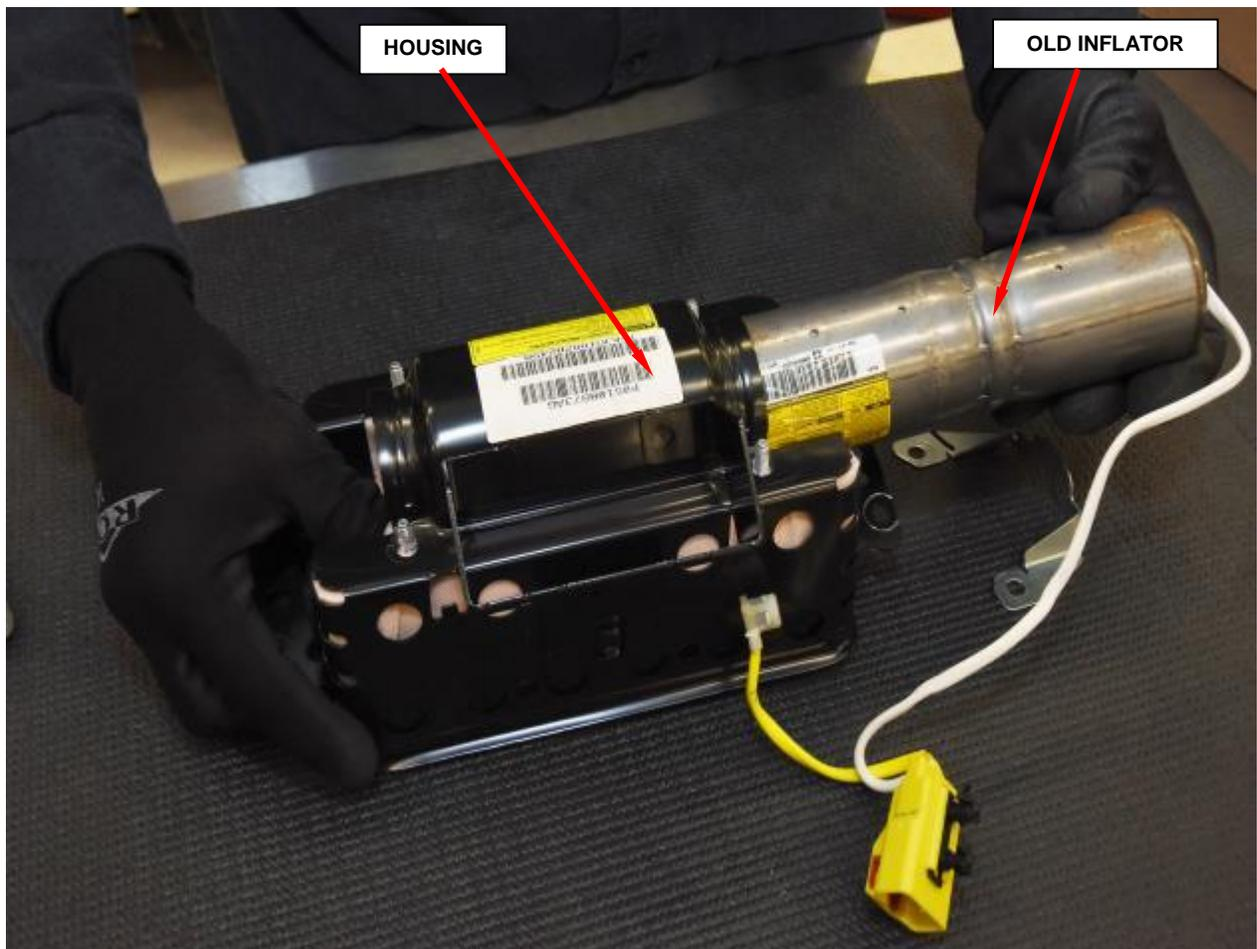

Figure 52 – Passenger Airbag Inflator Removal
- g. Slide the inflator out of the housing (Figure 52).